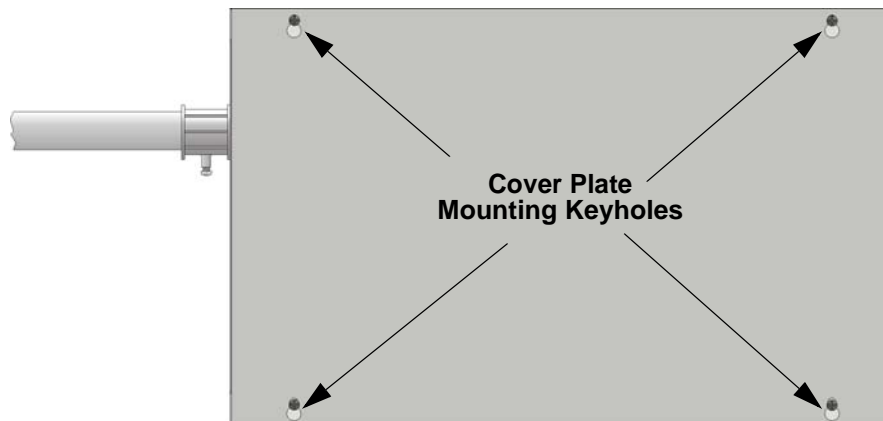

Figure 4.7 Cover Plate Mounting Keyholes and Cover Mounting Screws Alignment
6. Align the cover plate mounting keyhole over the cover mounting screws. See Figure 4.7.